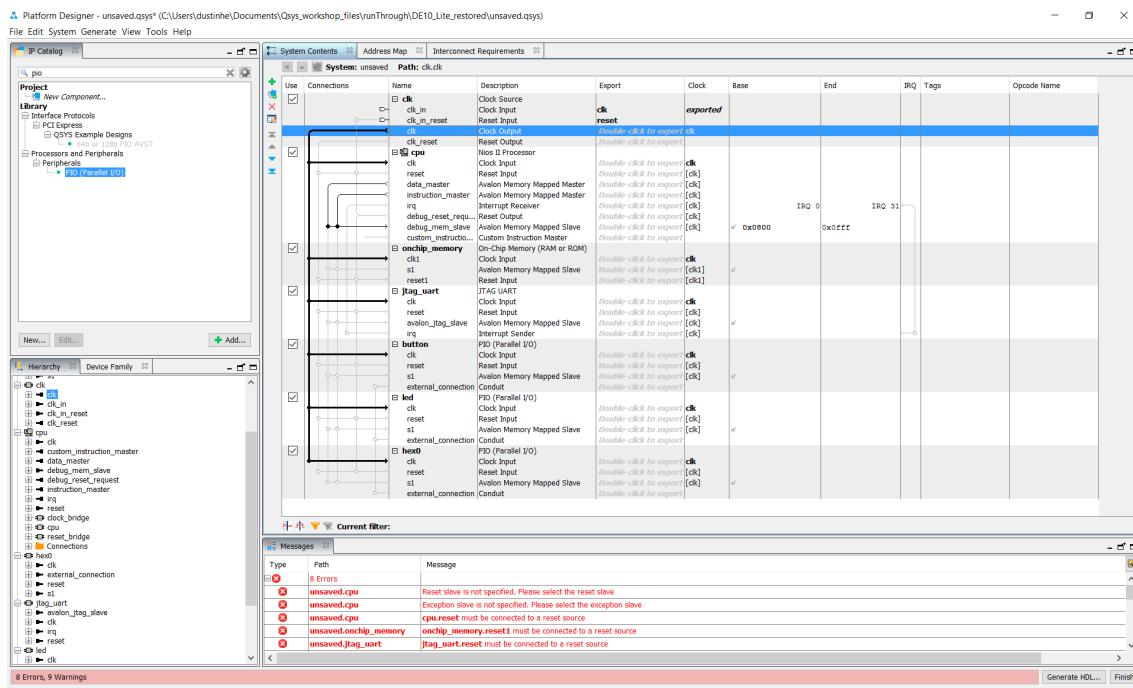

Figure 20: System Contents after Connecting the Clock
- Make connections between the **clk** component and the **clk** inputs of each of the other components by clicking on the small open circles on the lines that intersecting with the other components. You should see something like Figure 20 on the following page.